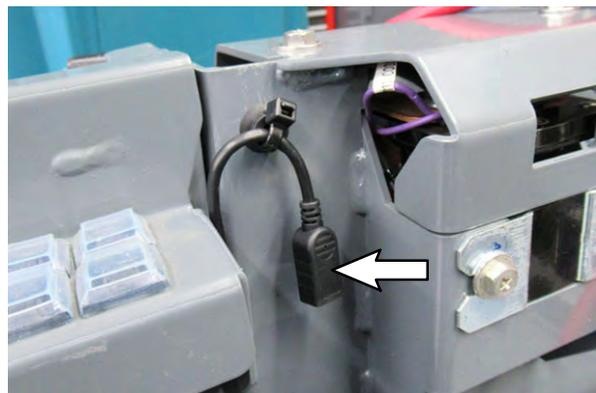

**FIG. 12**
1. Remove the board cover from the board mounting plate. Set the board cover and mounting hardware aside. (Fig. 11/Fig. 12)